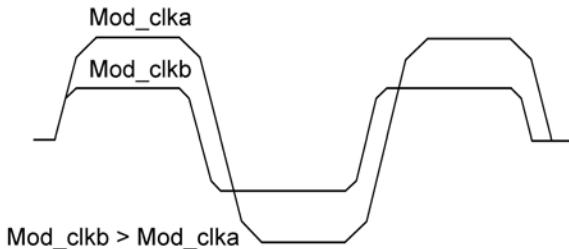

Figure 20. Two Different Modulator Clock Settings
Having f_{MOD_CLK} set at 8 times the bit rate corresponds to a baseband data signal filtered in a Gaussian filter with a bandwidth-period product (BT) of 1. When BT is increased, the waveform will be less filtered. Figure 20 shows two waveforms with BT=1 (the minimum, with f_{MOD_CLK} at 8 times the bitrate) and BT=2 (with f_{MOD_CLK} at 16 times the bit rate). Changing BT changes the charge-and discharge times and therefore the frequency deviation, as seen in Figure 20.